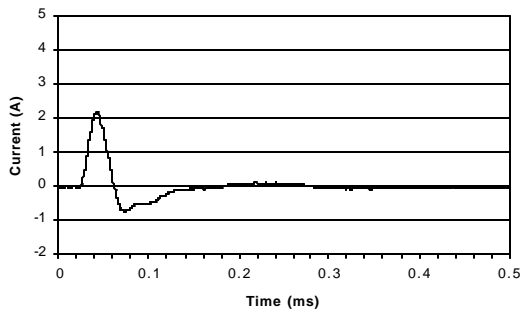

Figure 44. Dry Condition Current Output
**Shock Intensity:** Current output for dry and wet conditions are shown in **Figures 44 and 45**.